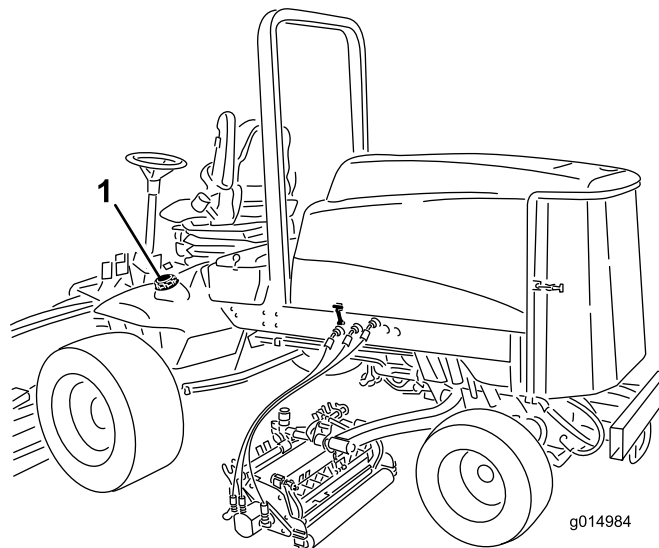

Figure 31
1. Remove the fuel tank cap (Figure 31).